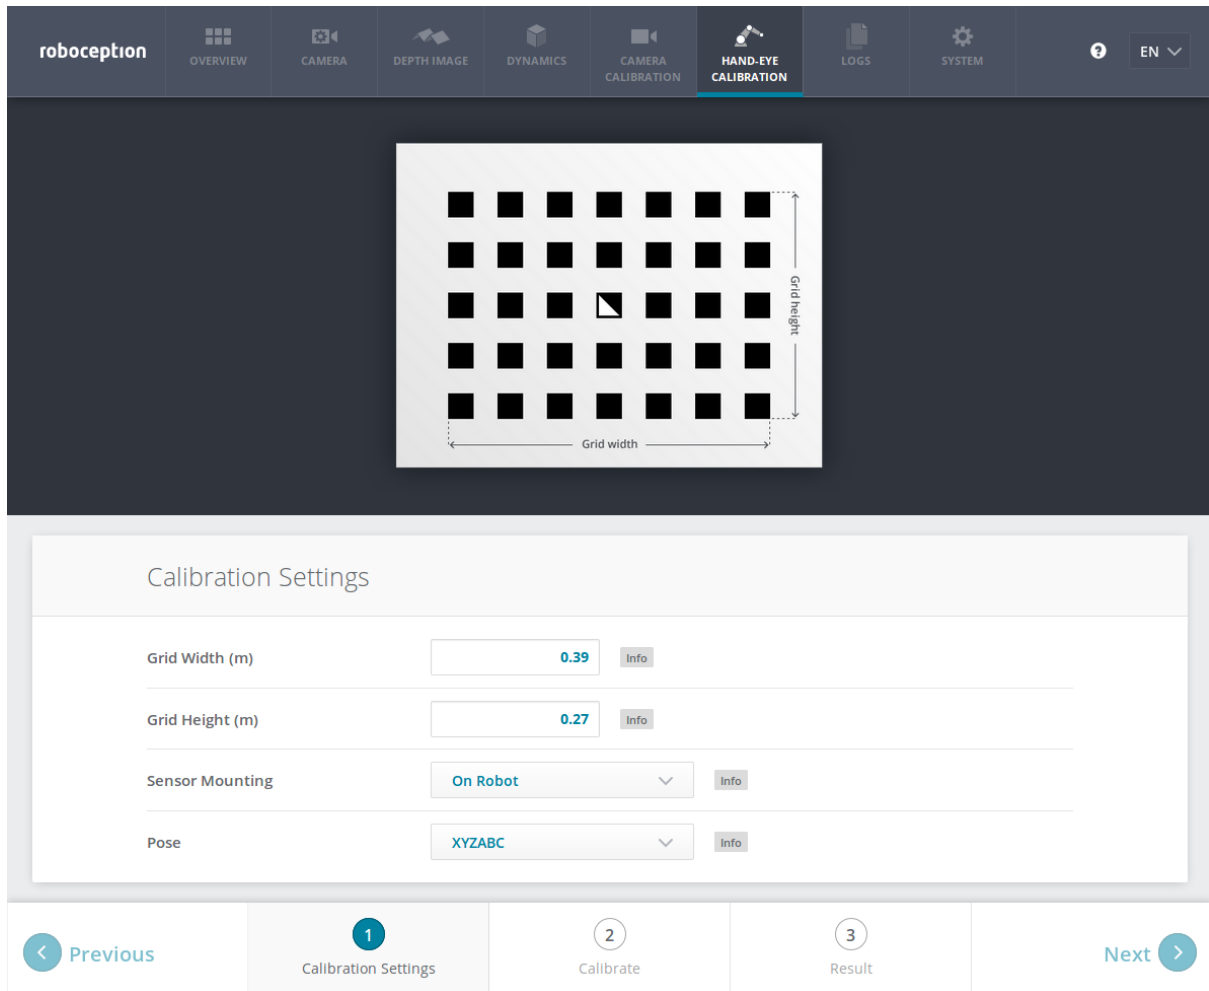

Fig. 6.19: Defining hand-eye calibration settings via the *rc\_visard*'s Web GUI
**Web GUI example:** The Web GUI offers an interface for entering these parameters during the first step of the calibration routine as shown in Fig. 6.19. In addition to grid size and sensor mounting, the Web GUI also offers a *Pose* setting to be defined by the user. It specifies the format used for reporting the robot poses in the upcoming step 2 of the calibration process, either as *XYZABC* for positions and Euler angles, or *XYZ+quaternion* for positions plus quaternions for representing rotations. See Pose formats (Section 13.1) for the exact definitions.